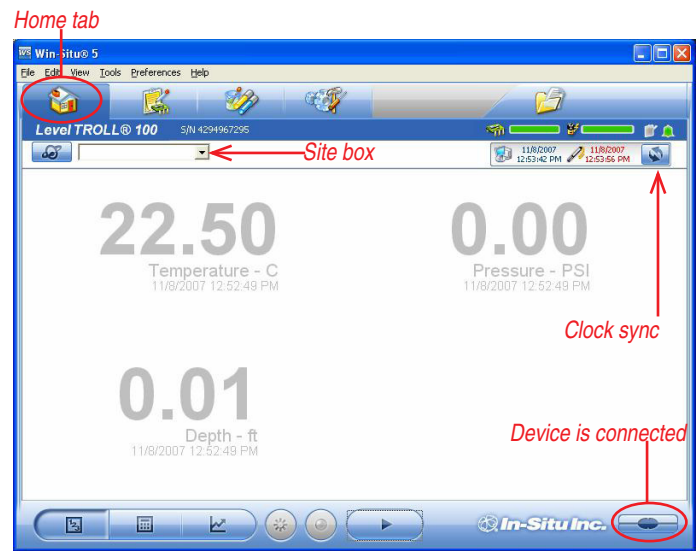

Fig. 2. Home tab with device readings
4. Software connects and displays a reading of all supported parameters in the Home tab (Fig. 2).
Data collection schedules depend on the device clock, shown with the system (PC) clock near the top of the screen when connected (Fig. 2). If the device clock is red, synchronize it to the system clock by clicking the Clock Sync button (Fig. 2).
- To set the new site in the Level TROLL: Return to the Home tab, click the down arrow beside the site box (Fig. 2), and select your new site.